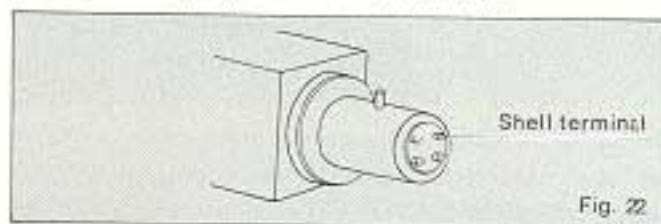

Fig. 22
### ⑥ Wipe the head shell terminals from time to time. (See Fig. 22)